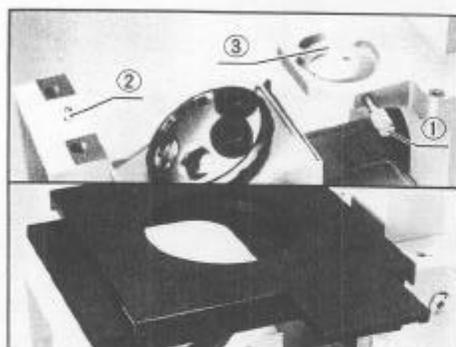

Fig. 2
- 1) Loosen the clamping screw ①. (Fig. 2)
- 2) Aligning the stage positioning groove to the positioning pin ②, place the circular mounting dovetail of the stage on the stage holder ③. (Fig. 2)